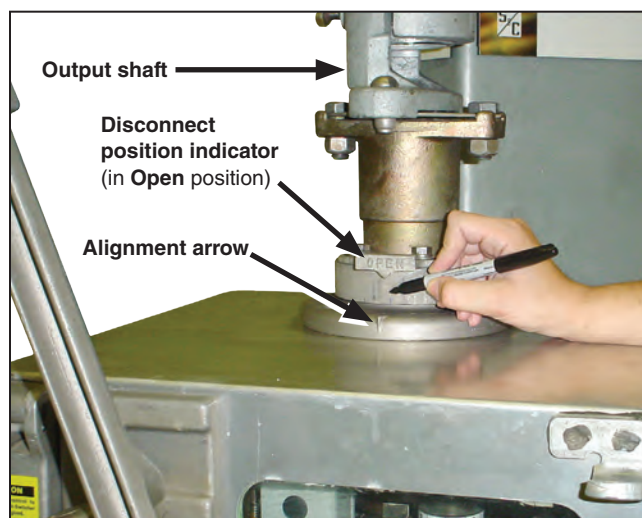

Figure 51. Align the position indicators. Mark the direction of rotation of the output shaft.
- STEP 3.** With the SELECTOR handle in the **Coupled** position, crank the disconnect to the fully **Open** position and then accurately align the disconnect position indicators on the output-shaft collar of the switch operator with the alignment arrow below. See Figure 51.
- (a) With the SELECTOR handle in the **Coupled** position, manually crank the disconnect to the fully **Open** position and then to the fully **Closed** position. Temporarily mark on the top of the switch operator enclosure the direction in which the output shaft rotates to close the disconnect. See Figure 51 on page 33.